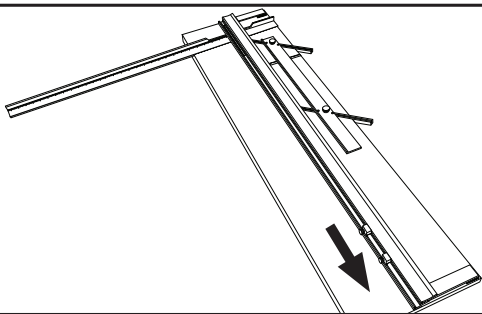

Fig. 43
4. Place clean glass under guide rail (**Fig. 43**) and against squaring arm.